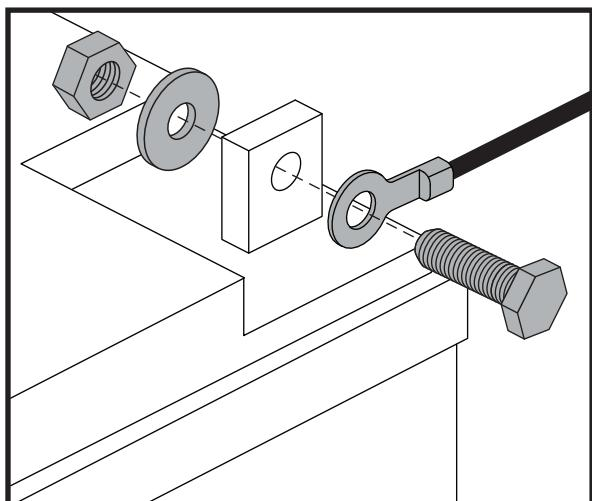

Figure 14. Battery Terminal Hardware
5. Disconnect the battery cables from the battery terminals by sliding back the terminal boots and unscrewing the nut from the bolt. See figure 14.